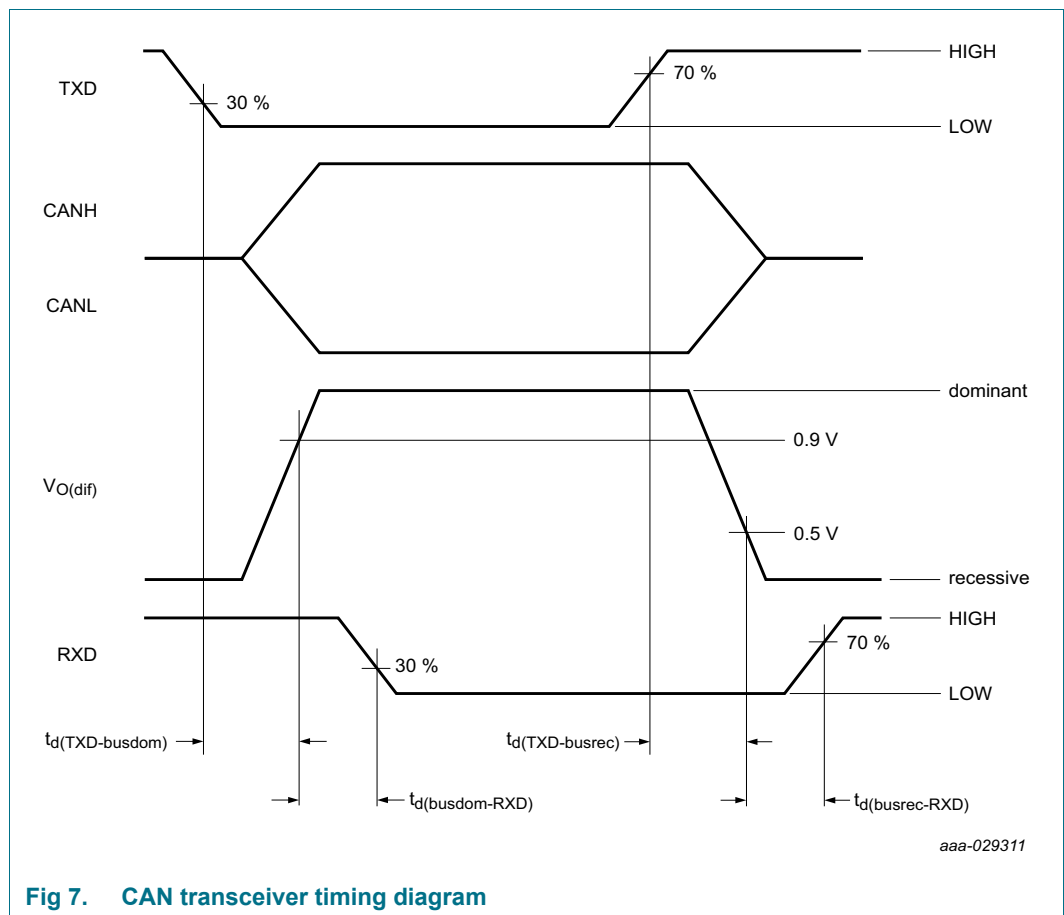

Fig 7. CAN transceiver timing diagram
- [2] See Figure 7 and Figure 10.